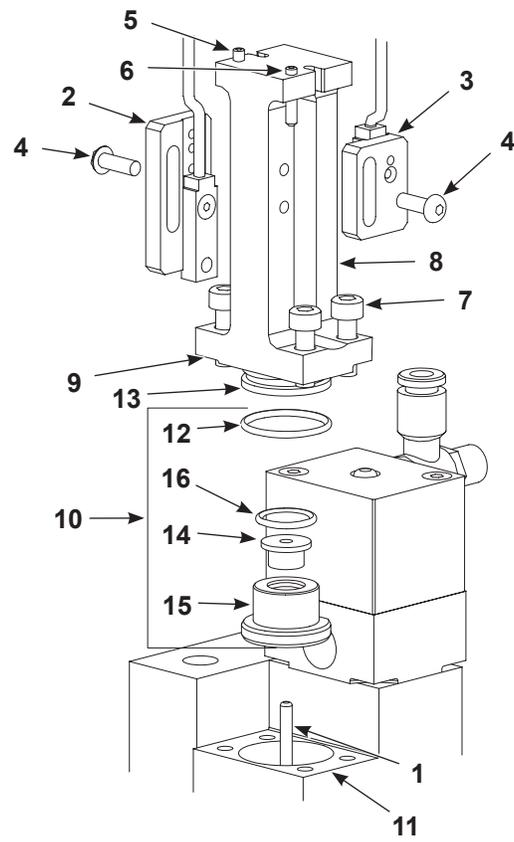

Figure 8 Metering Seal Cartridge Kit
**NOTE:** The metering seal cartridge kit includes items 12, 14, 15, and 16 shown in Figure 8.
1. Before depressurizing, actuate the dispense gun so that the piston rod (1) is at its highest position. This will make disassembly easier.
2. Remove the sensor plates (2, 3) by removing screws (4). Do not disturb the set screws (5, 6).
3. Remove the four screws (7) and carefully lift proximity cap (8) straight up. Pry slots (9) may be used to help break free.
4. With the cap (8) lifted off the stem (1), remove the contents (10) of the seal cartridge kit.
5. Clean the cartridge cavity in the cap (8) and bore in the dispense gun body (11).
6. Remove the O-ring (12) from the cylindrical portion of the proximity cap and clean the groove (13).
7. Install the new O-ring (12) and lubricate with TFE grease.
8. Make sure the brass rod bearing (14) is installed into the seal cartridge (15) and the O-ring (16) is in place over the bearing flange.
9. Grease the O-ring (16) and install cartridge assembly (14, 15, 16) into the proximity cap (8), properly aligning flat with the tab.